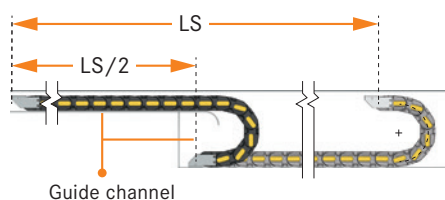

Fig. 1
- Supported applications where the cable chain is moving on a floor, inside a guide channel (**Fig.1**), for example in long travel distance applications